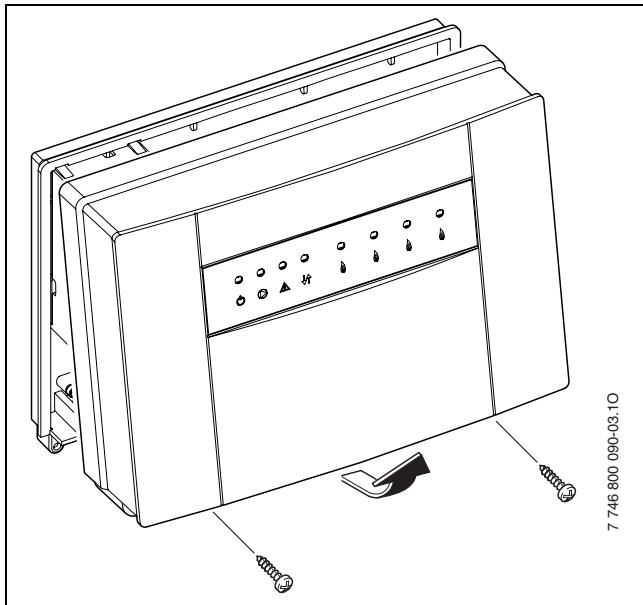

Fig. 7 Removing the cover
- ▶ Undo 2 screws at the bottom of the ICM module, pull the cover at the bottom forward and lift off upwards (→ fig. 7).
- ▶ Open the ICM module cover (master) (→ fig. 7, page 11).